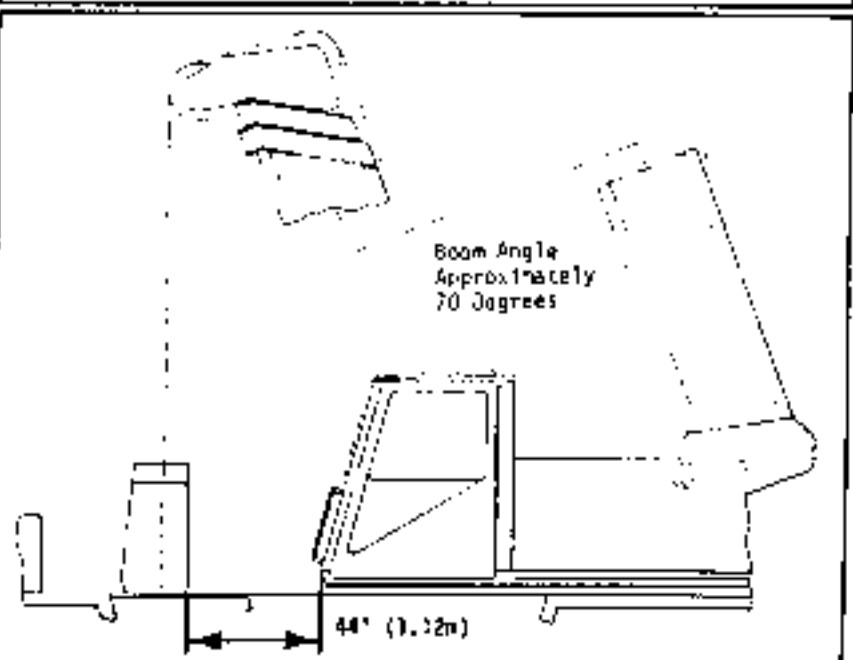

Fig. 1-36
- (a) With the boom fully retracted and a boom angle of approximately 70 degrees, set the counterweight, centered on the carrier frame, 46' (1.52m) from the upper cab. Refer to Fig. 1-36.